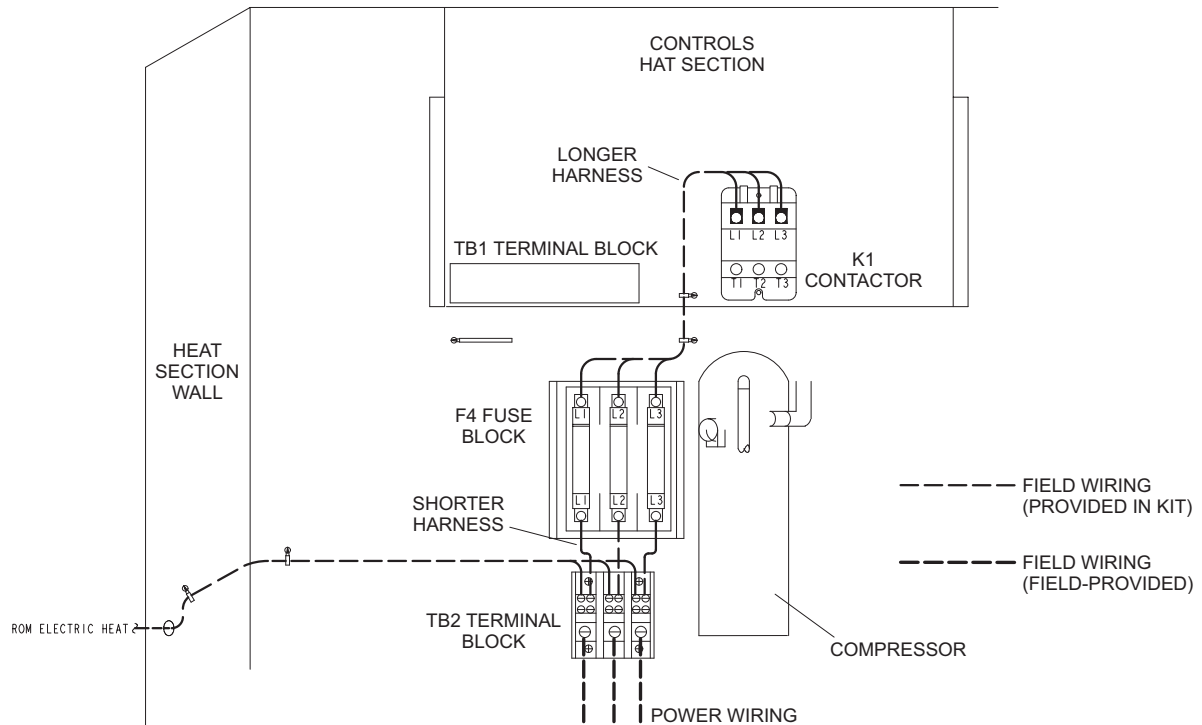

FIGURE 4
- 1 - Route power wires from electric heat assembly to control area. Connect wire to load side of TB2 terminal block. Refer to FIGURE 4.